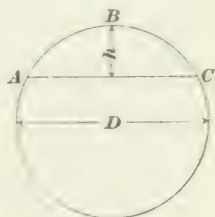

FIG. 49.
83. To find the area of a segment of a circle (a **segment** of a circle is the area included between a chord and its arc; for example, the area $A B C$, Fig. 49) when its chord and height are given. There is no exact method, except by applying principles of trigonometry. The following rule gives results that are exact enough for practical purposes.
The rule, expressed as a formula, is as follows, where D = the diameter of the circle and h = the height of the segment (see Fig. 49):
NOTE.—Had the chord $A C$, Fig. 49, been given instead of the diameter, the diameter would have been found as explained in Art. 75.